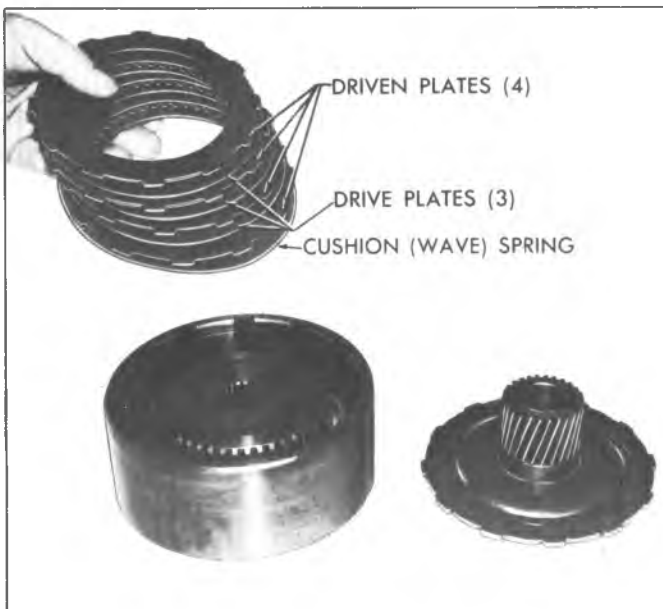

Fig. 22PG--Installing Clutch Drum Plates (typical)
7. Install the four (4) steel reaction driven plates and three (3) faced drive plates alternately, beginning with a steel reaction plate (fig. 22PG).